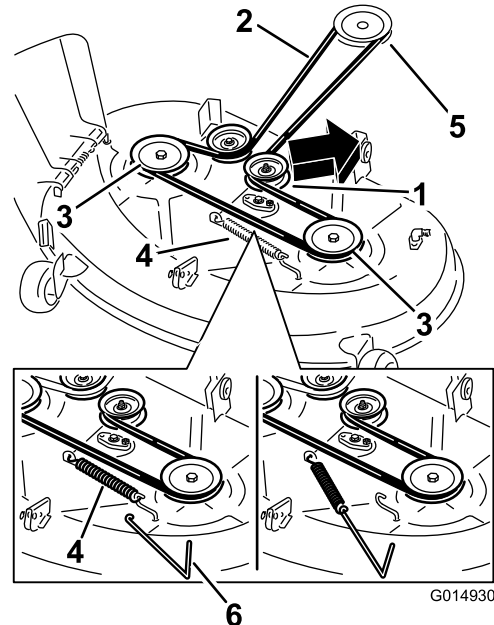

Figure 60
remove tension on the idler pulley and roll the belt off of the pulleys (Figure 60).
6. Using a spring removal tool, (Toro part no. 92-5771), install the idler spring over the deck hook and placing tension on the idler pulley and mower belt (Figure 60).